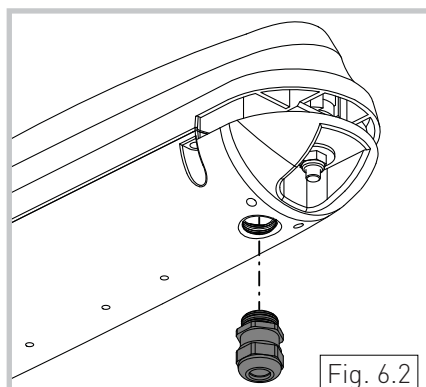

Fig. 6.2
- Fit the cable gland on the automation, inserting it in the relative threaded hole in the metal fusion (Fig. 6.2 and 6.3).